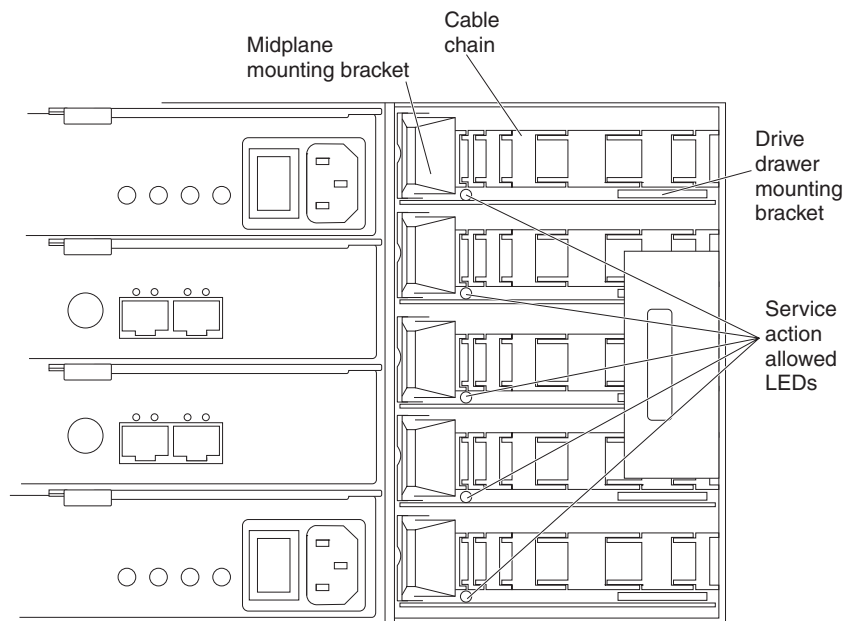

Figure 56. Rear view of the storage expansion enclosure with the right fan assembly removed
- a. At the rear of the drive tray, remove the right fan assembly. See “Replacing a fan assembly” on page 110 for the steps to remove a fan assembly. Figure 56 shows the area with the fan assembly removed.